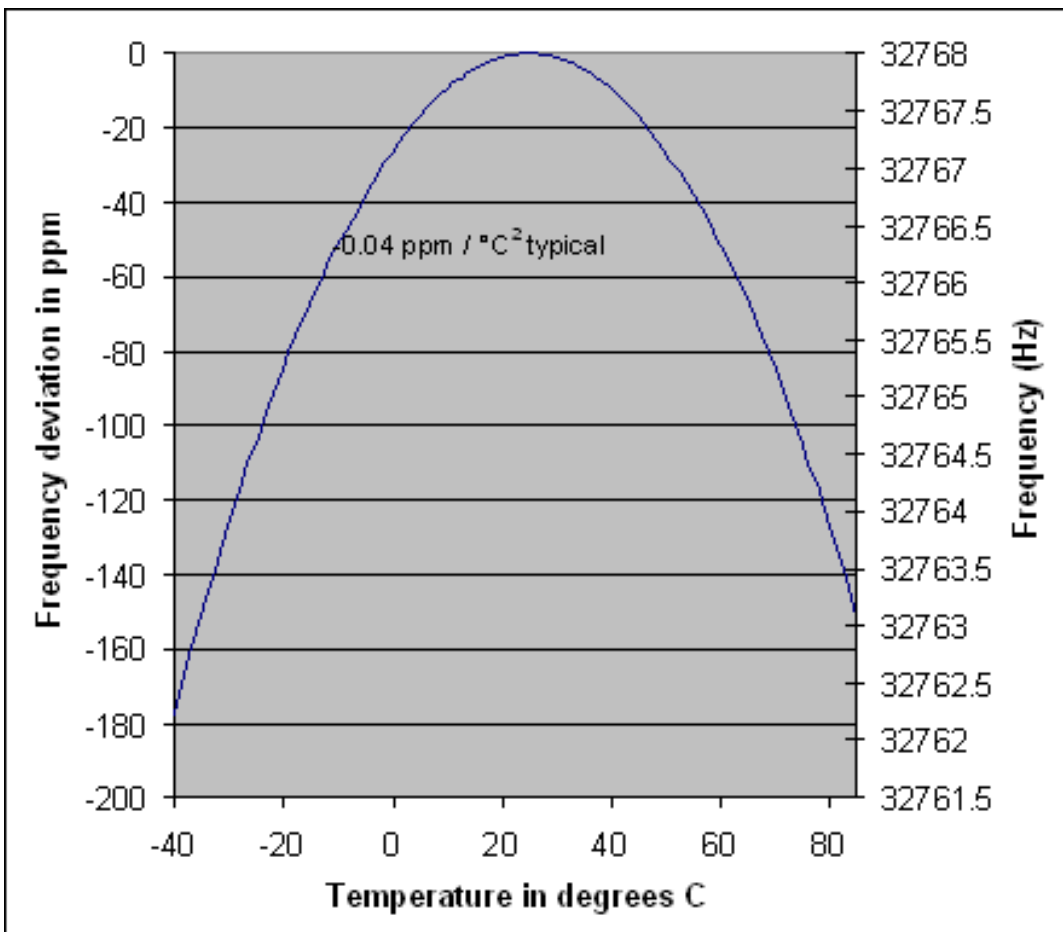

Figure 2. Crystal frequency vs. temperature.
In addition to the errors from the crystal and the load match, crystals vary from their base frequency as the ambient temperature changes. Dallas RTCs use "tuning fork" crystals, which exhibit an error over temperature, as shown in **Figure 2**. An error of 20ppm is equivalent to approximately 1 minute per month.
3. If possible, place a guard ring (connected to ground) around the crystal. This helps isolate the crystal from noise coupled from adjacent signals. See Figure 2 for an illustration of using a guard ring around a crystal.